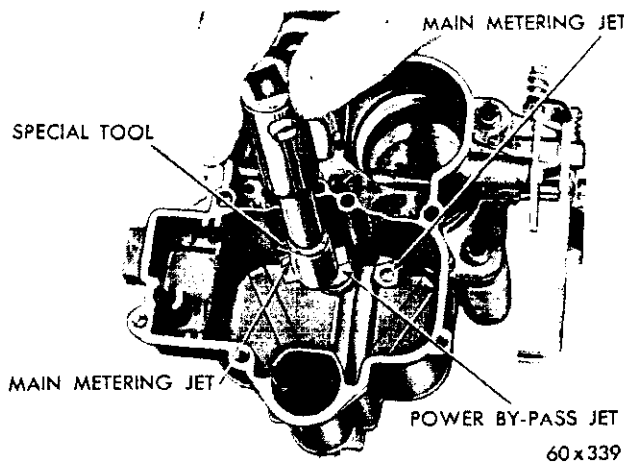

Fig. 10—Removing the Power By-Pass Jet
(5) Using Tool 73598, remove the power by-pass jet and gaskets, as shown in Figure 10.
(3) Install the power by-pass jet and new gasket. Tighten securely, using Tool 73598 (Fig. 10).